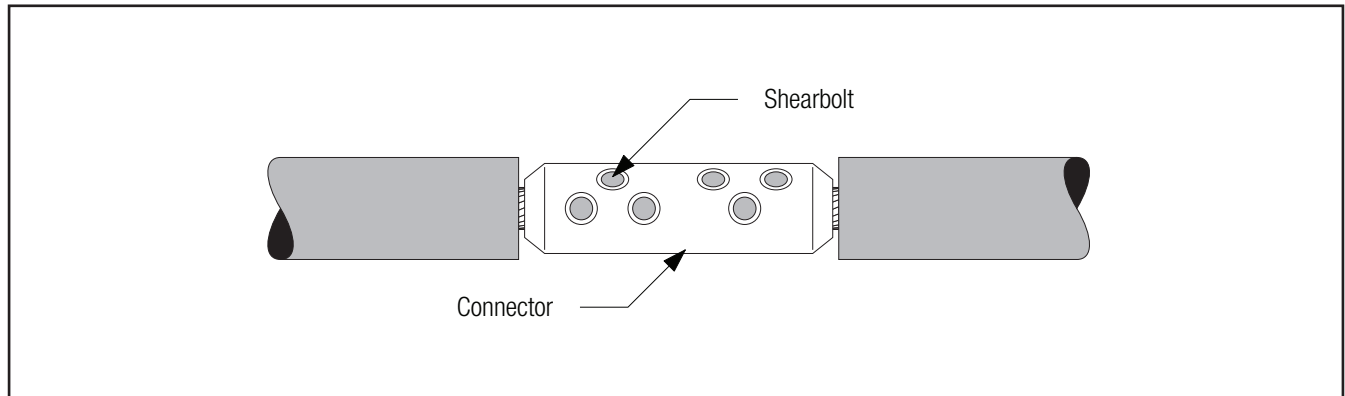

Figure 8
- 3.2 Install 3M Shearbolt Connector QCI 500-1000 according to the instructions included with the connector (*Figure 8*).